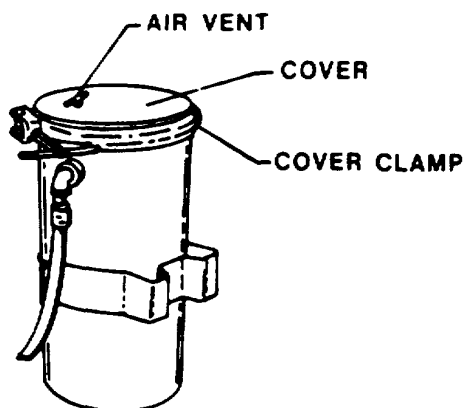

FIGURE 88
- (1) Push STOP switch to turn off oil pump motor.
- (2) See Figure 88. Open Air Vent in Cover of filter container.
- (1) See Figure 88. Open Air Vent.